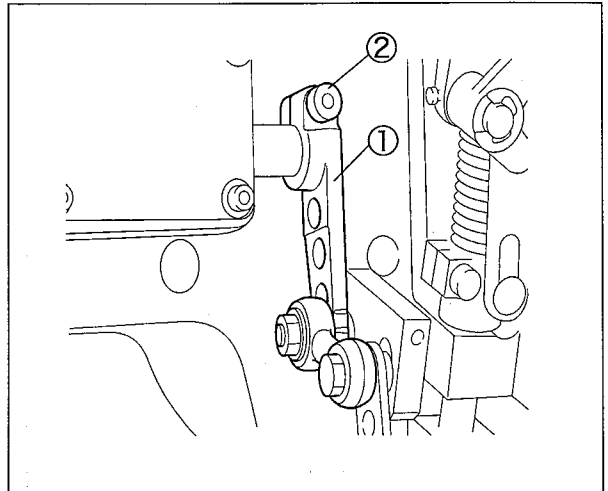
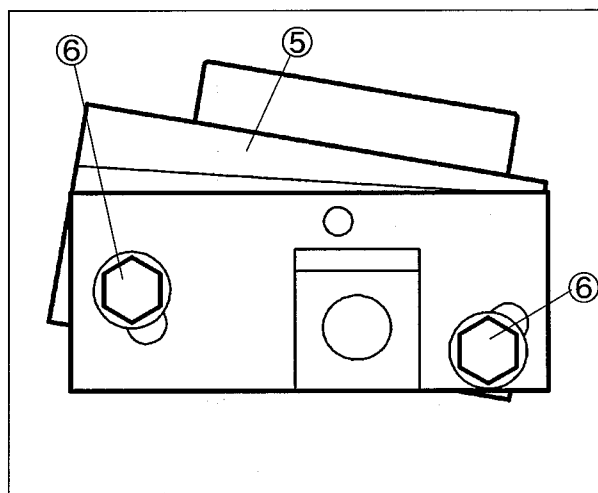

Fig. 21
Fig. 25
2. Loosen the screw② of upper feed roller lever①. (Fig. 21)
3. Loosen the two screws⑥ of upper feed roller yoke (lower)⑤. (Fig. 25)
4. Rotate the upper roller yoke(lower)⑤ clockwise in view of above, and tighten the screw⑥(2pcs.).
5. Tighten the screw② to adjust the right-and-left position of upper feed roller lever①. (Fig. 21)